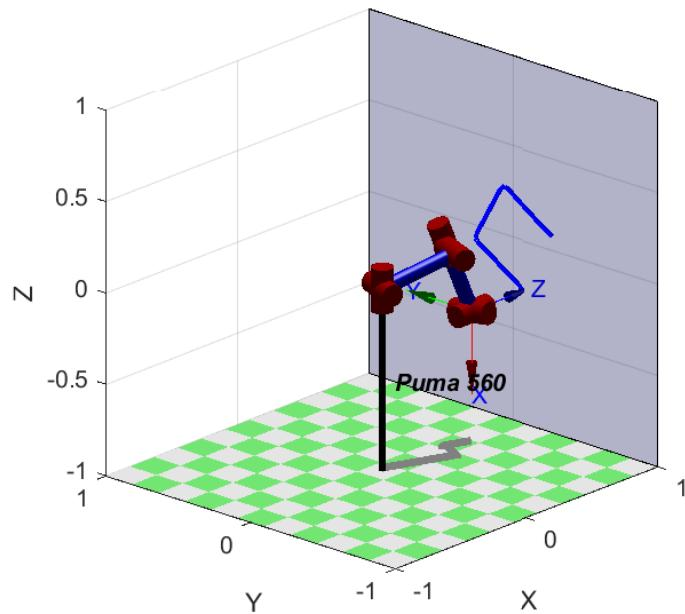

Figure 4: Example trajectory for the manipulator on the vertical wall
- Design the trajectory that moves the pen along the wall and draws the first letter of your last name on the vertical wall. You will use the code inside the Task 3 folder and only need to execute the file “run_vertical.m”. Example trajectory for the manipulator is shown in Figure 4.